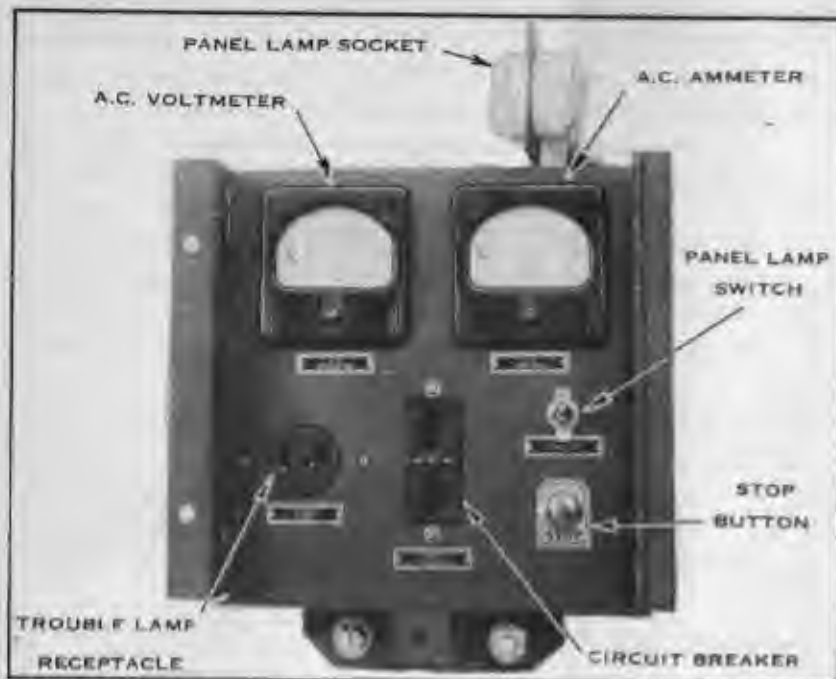

FIG. 10 CONTROL PANEL
CONTROL PANEL—Meters and various controls are mounted on the control panel, Figs. 10 and 11.
- k. Open the control panel door and make sure that the **CIRCUIT BREAKER** handle, Fig. 10, is in the **OFF** position so no load is connected.
- CHECKING OPERATION**—Check the ENGINE OIL PRESSURE GAGE immediately after the engine starts. Pressure will be high until the engine warms up. Observe the readings of gages and meters on the control panel, Fig. 10, as a check on normal operation. Normal readings after the Power Unit reaches normal operating temperatures are given here.
b. **CONNECTING THE LOAD**—When practicable to do so, allow the Power Unit to warm up somewhat before connecting the load. This warming up should reach at least the point where the engine operates smoothly with the CHOKE button entirely in. Then connect the load by throwing the CIRCUIT BREAKER control handle, Fig. 10, to the ON position. The CIRCUIT BREAKER will open automatically and disconnect the load if the Power Unit is severely overloaded. Throw the control handle to the OFF position to disconnect the load when desired.